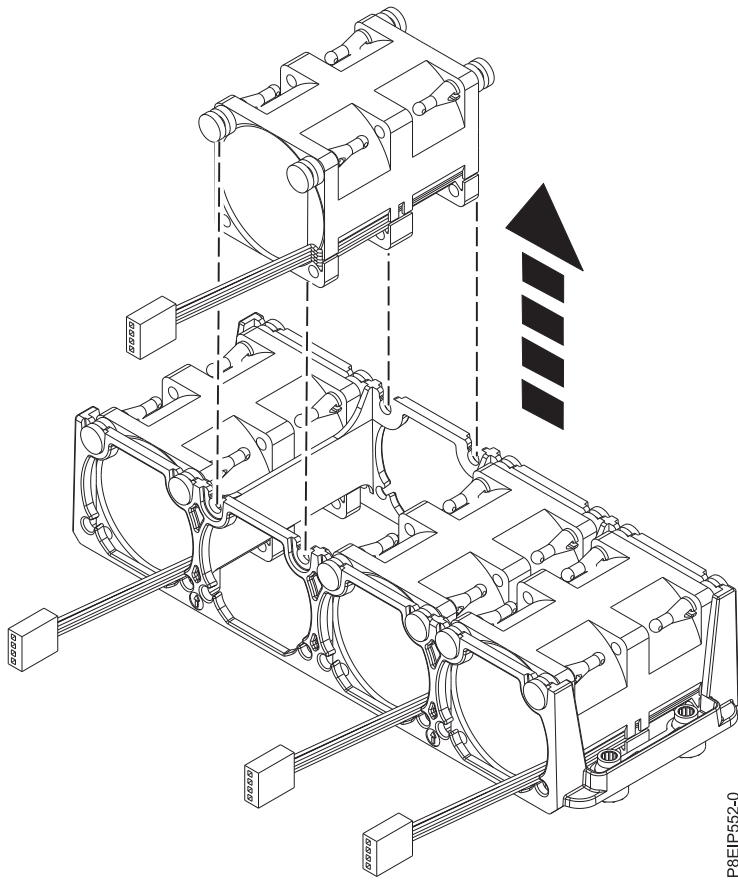

Figure 13. Removing a fan
4. Push the fan up from the holder as shown in Figure 13 on page 16.